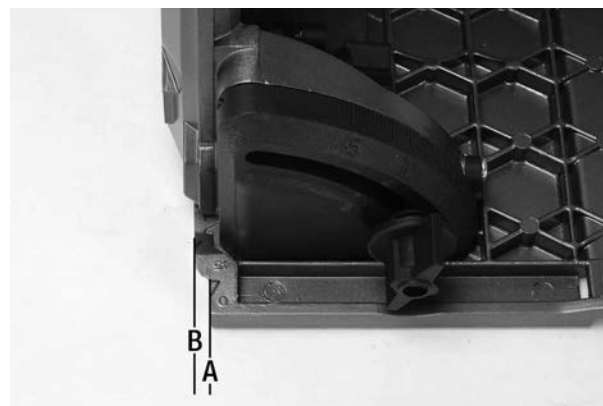

FIGURE 7
If using this Plunge Cut Track Saw without a track, align the "0" mark (A) Fig.7 with the cut line mark you made on your workpiece for all straight cuts. For 45° bevel cuts, align the "45" mark (B) Fig.7 with the cut line mark you made on your workpiece.
If using this Plunge Cut Track Saw with a track, align the "0" mark (A) Fig.7 with the cut line mark you made on your workpiece.